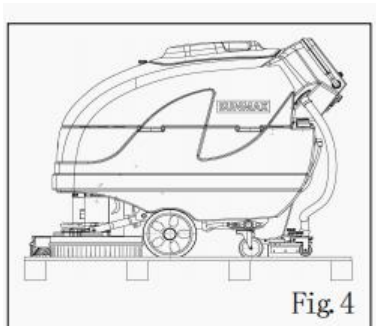

Fig. 4
2. Methods for Moving the Machine (Fig. 4)